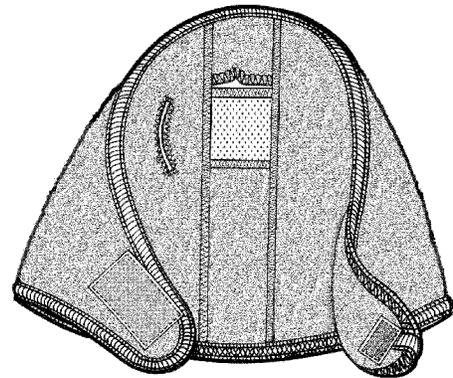

Figure 3-50. Faceshield
7. The faceshield (figure 3-50) was designed for use in rotary wing aircraft only. It is made of aramid double velour, which is modeled after the 200 weight polyester double velour available commercially.